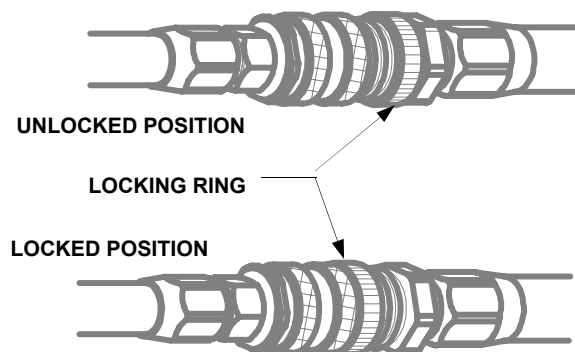

Figure 2-10. Quick Connect Coupling Safety Locking Ring
- c. Attach the air inlet connector on a pressure regulator (diaphragm or piston type) to an air supply using the appropriate interconnecting fittings as required. Be certain to turn the safety locking ring on any quick connect coupling to the locked position as shown in figure 2-10. Tighten all connections just enough to prevent air leakage. Do not overtighten.
- e. Attach an air hose quick connect coupling to the pressure regulator outlet port using the appropriate interconnecting fittings as required. Check that the quick connect coupling is fully engaged and locked in position to assure a leak-free connection. Be certain to turn the safety locking ring on the quick connect coupling to the fully locked position as shown in figure 2-10.
coupling is fully engaged and locked in position to assure a leak-free connection. Be certain to turn the safety locking ring on the quick connect coupling to the fully locked position as shown in figure 2-10.
- g. Attach the inlet port quick connect nipple on a safety in-line relief valve to the outlet port quick connect coupling on a controller (single, dual, single push-button, or dual "deadman" safety and relief valve). Check that the quick connect coupling is fully engaged and locked in position to assure a leak-free connection. Be certain to turn the safety locking ring on the quick connect coupling to the fully locked position as shown in figure 2-10. Check that the safety in-line relief valve shut-off valve is closed (full clockwise).
- h. If using a dual or dual "deadman" safety and relief valve, attach the inlet port quick connect nipple on a second safety in-line relief valve to the second outlet port quick connect coupling on the dual or dual "deadman" safety and relief valve. Check that the quick connect coupling is fully engaged and locked in position to assure a leak-free connection. Be certain to turn the safety locking ring on the quick connect coupling to the fully locked position as shown in figure 2-10. Check that the safety in-line relief valve shut-off valve is closed (full clockwise).
- i. Attach an air hose quick connect nipple to the safety in-line relief valve outlet port coupling using the appropriate interconnecting fittings as required. Check that the quick connect coupling is fully engaged and locked in position to assure a leak-free connection. Be certain to turn the safety locking ring on the quick connect coupling to the fully locked position as shown in figure 2-10. Connect additional lengths of air hose of the same color as required.
- j. If a second safety in-line relief valve is used, attach an air hose quick connect nipple to the second safety in-line relief valve outlet port coupling using the appropriate interconnecting fittings as required. A different colored air hose should be used to permit the rapid and positive identification of the lift bag connected to each side of the controller. Check that the quick connect coupling is fully engaged and locked in position to assure a leak-free connection. Be certain to turn the safety locking ring on the quick connect coupling to the fully locked position as shown in figure 2-10. Connect additional lengths of air hose of the same color as required.
coupling. Check that the quick connect coupling is fully engaged and locked in position to assure a leak-free connection. Be certain to turn the safety locking ring on the quick connect coupling to the fully locked position as shown in figure 2-10.
- l. If a second lift bag is being used, attach the second lift bag nipple to the other air hose quick connect coupling. Check that the quick connect coupling is fully engaged and locked in position to assure a leak-free connection. Be certain to turn the safety locking ring on the quick connect coupling to the fully locked position as shown in figure 2-10.
safety in-line relief valve to the outlet port quick connect coupling on the controller. Check that the quick connect coupling is fully engaged and locked in position to assure a leak-free connection. Be certain to turn the safety locking ring on the quick connect coupling to the fully locked position as shown in figure 2-10. Check that the safety in-line relief valve shut-off valve is closed (full clockwise). Do not overtighten.
4. Attach an air hose quick connect nipple to the safety in-line relief valve outlet port coupling using the appropriate interconnecting fittings as required. Check that the quick connect coupling is fully engaged and locked in position to assure a leak-free connection. Be certain to turn the safety locking ring on the quick connect coupling to the fully locked position as shown in figure 2-10. Connect additional lengths of air hose as required.
5. Attach a lift bag nipple to the air hose quick connect coupling. Check that the quick connect coupling is fully engaged and locked in position to assure a leak-free connection. Be certain to turn the safety locking ring on the quick connect coupling to the fully locked position as shown in figure 2-10.